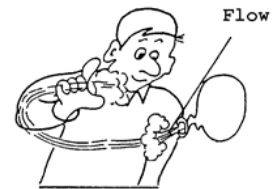

FIG 3.
- Flow and pressure are related but are obviously not the same. Pressure can cause flow. Let the air out of the balloon and you have caused it to flow. (Fig 3)